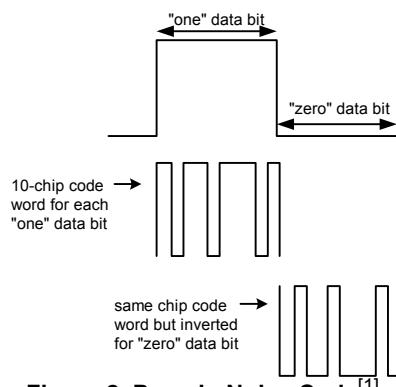

Figure 2. Pseudo Noise Code^[1]
WirelessUSB LS utilizes a 2.4-GHz direct sequence spread spectrum (DSSS) radio interface. DSSS generates a redundant bit pattern for each bit to be transmitted. This bit pattern is called a “chip” or a pseudo noise code. Notice in *Figure 2* that the pseudo noise code is a binary signal that is produced at a much higher frequency than the data that is to be transmitted. Because it has a higher frequency, it has a large bandwidth that spreads the signal in the frequency domain (i.e., it spreads its spectrum). The nature of this signal makes it appear that it is random noise.
1. Figure 2 shows the concept of PN Codes using 10 chip PN codes for illustration purposes only. The LS uses 32 chip and 64 chip PN Codes.